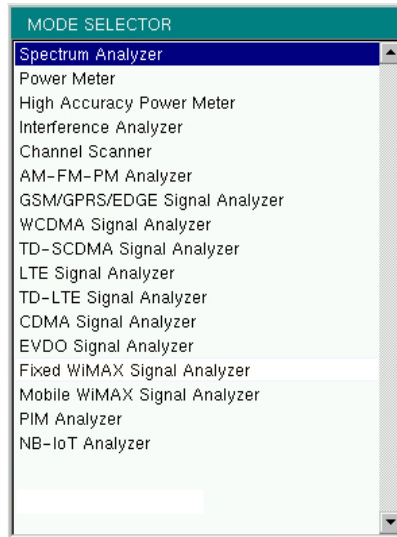

Figure 2-15. Mode Selector List Box
To change to another application or measurement mode, press **Shift**, then the **Mode (9)** key to display the Mode Selector list box, illustrated in Figure 2-15. Use the directional arrow keys or the rotary knob to highlight the desired mode, then press **Enter** to switch to the selected application. The measurement modes available for selection depend on the options that are installed and activated on your instrument.